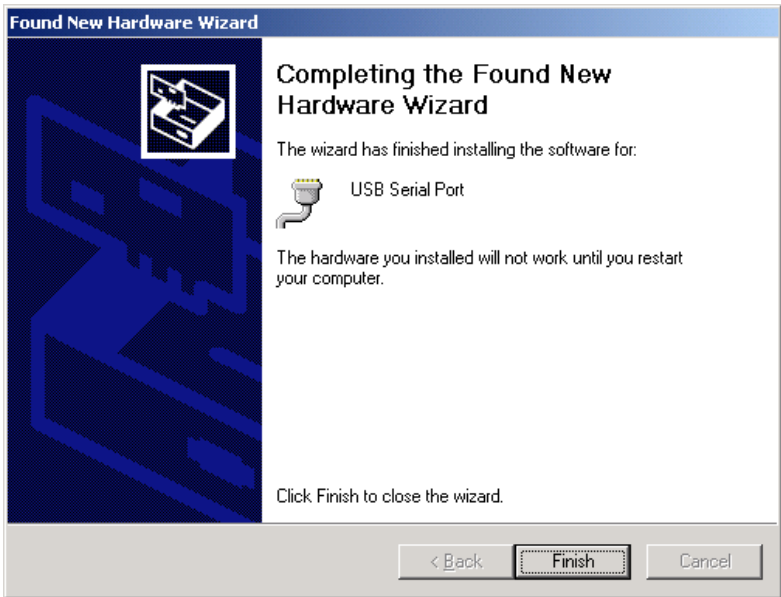

Figure 14. Completion of Hardware Wizard.
- Click **Finish** to close the wizard (Figure 14).